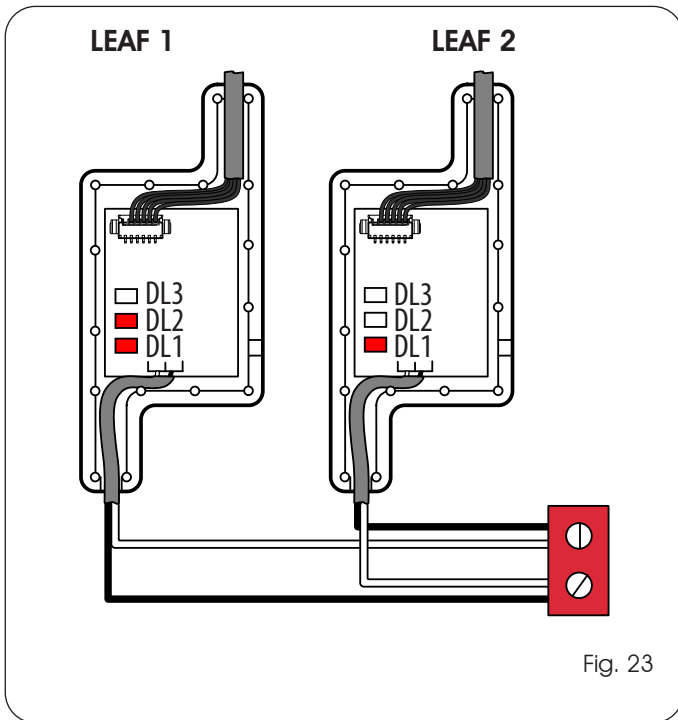

Fig. 23
To release the operator, remove the plastic cover, insert the key and turn the release lock counter-clockwise for about one turn. (Fig. 23 ref. 1)
To re-lock the operator, turn the release lock clockwise until reaching the stop point, do not force (Fig. 23 ref. 2)
To verify the proper assignment of **LEAF 1 - ENCODER 1 - MOTOR 1** and **LEAF 2 - ENCODER 2 - MOTOR 2**, use the LEDs visible through the encoder control board shell, as shown in Fig. 23.